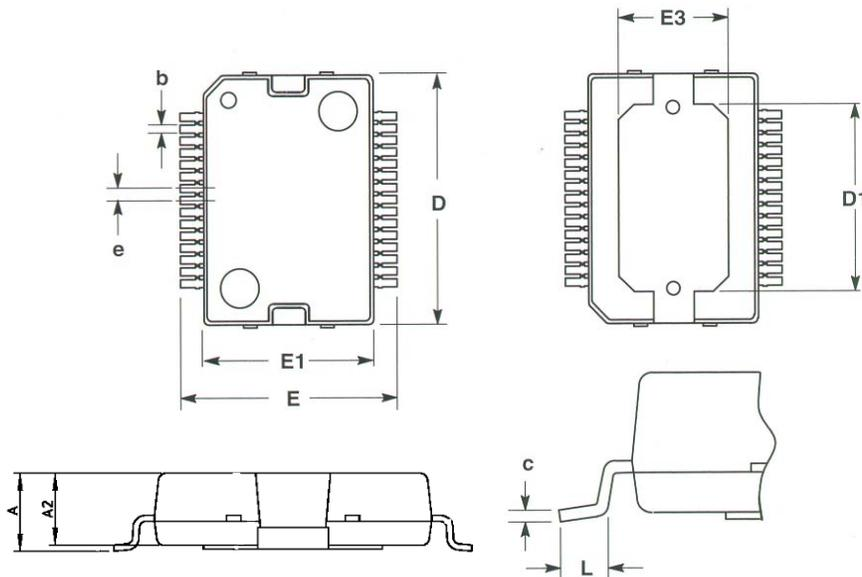

Figure 2. 30ld HSOP Case Outline Drawing
Three HSOP packages are available, all with the same body size of 15.90mm (L) x 11.00mm (W) but with different lead counts and pitch. There are 20ld, 30ld and 44ld HSOP packages with lead pitch of 1.27mm, 0.80mm, and 0.65mm, respectively. A few nominal dimensions for all three HSOP packages are provided in Figure 2 and Table 1.
Freescale’s HSOP package is a non-JEDEC package. The exposed pad region, referenced as dimensions E3 and D1 in Figure 2, was widened for better thermal resistance performance compared to the JEDEC MO-166 package [See reference (1)].